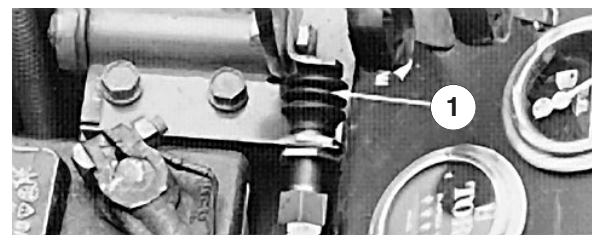

Figure 40
3. Remove the boot from the button end of the power take-off switch (Fig. 40). Retain the boot for re-installation. Separate the switch wire connectors.